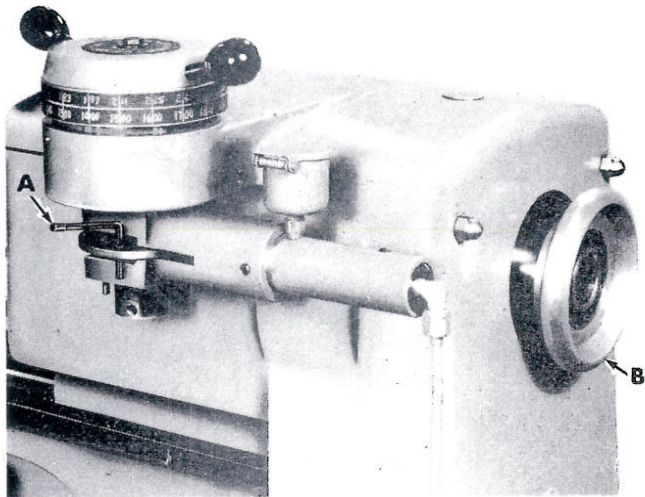
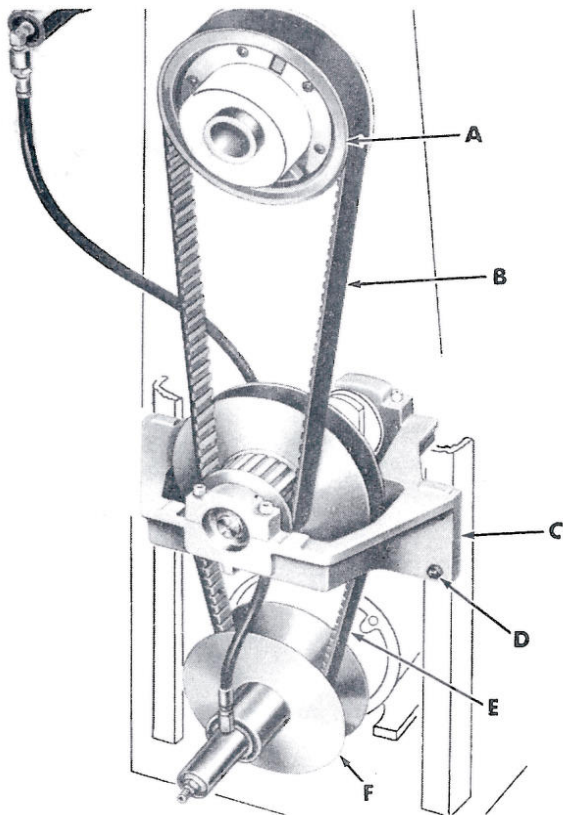
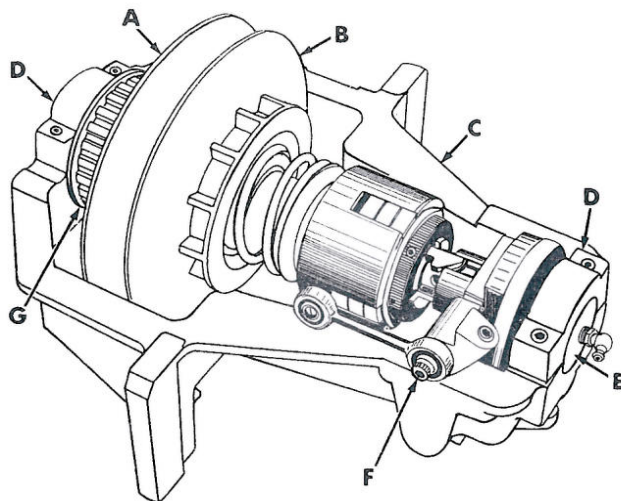

Figure 21
Figure 22
Figure 23
2. Remove spindle handwheel (B) (fig. 21), belt guards and front cover.
3. Turn variable dial back to lowest speed and lock dial in place with pin (A).
4. Holding variable dial against low speed stop, pull on outer sheave of lower variable motor pulley (F) (fig. 22) until variable belt (E) is loose.
5. Thru front cover opening, remove 5/16"-18 hex cap screw (F) (fig. 23) and spacer from clutch linkage.
6. Remove four hex nuts (D) (fig. 22). Raise countershaft (C) slightly and slip timing belt (B) off spindle pulley (A). Lower countershaft and slip variable belt (E) off variable motor pulley (F).
8. Remove bearing caps (D) (fig. 23), snap rings and countershaft spindle (E) from bracket (C).
11. Install spindle in countershaft bracket and secure in place with snap rings and bearing caps (D). IMPORTANT: Make sure timing belt is in place before installing bearing caps.
13. Position the countershaft (C) (fig. 22) so variable belt (E) can be slipped on motor pulley (F), then raise countershaft so timing belt (B) can be slipped on spindle pulley (A).
14. Place countershaft assembly on the four mounting studs (D), then snug up the four hex nuts. Refer to Tensioning Timing Belt steps 2-5.
16. Remove lock pin (A, fig. 21) from variable cam housing.
4. Pull on outer sheave of lower variable motor pulley (F) (fig. 22) until variable belt (E) is loose.
9. Remove timing belt from countershaft pulley (G).
10. Place new timing belt on countershaft pulley (G).
11. Install spindle in countershaft bracket and secure in place with snap rings and bearing caps (D). **IMPORTANT:** Make sure variable belt is in place before installing bearing caps.
12. Position the countershaft (C) (fig. 22) so variable belt (E) can be slipped on motor pulley (F), then raise countershaft so timing belt (B) can be slipped on spindle pulley (A).
13. Place countershaft assembly on the four mounting studs (D), then snug up the four hex nuts. Refer to Tensioning Timing Belt Steps 2-5.
15. Remove lock pin (A, fig. 21) from variable cam housing.